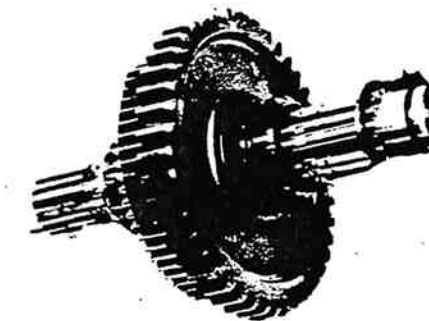

Figure 13-58. Removing Limit Washer.
12. Rotate reverse gear limit washer to align its splines with those of the mainshaft and remove washer (figure 13-58).